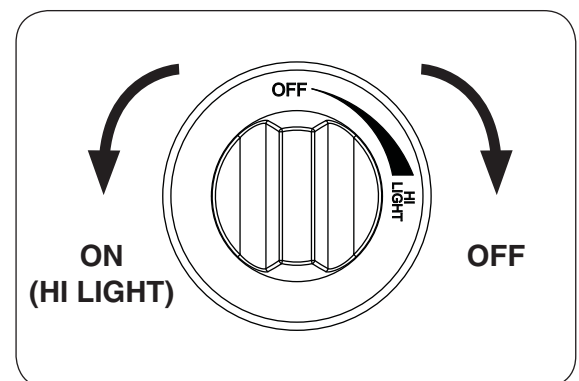

Fig. 33-2
4. **Once the match is burning and in position**, depress the gas control knob and turn it counter-clockwise to the **HI LIGHT** position (see Fig. 33-2). Your burner should light.
To extinguish your gas burner, depress the gas control knob and turn it clockwise to the **OFF** position (see Fig. 33-2). Be sure the control knob is turned fully off to avoid any gas leakage.